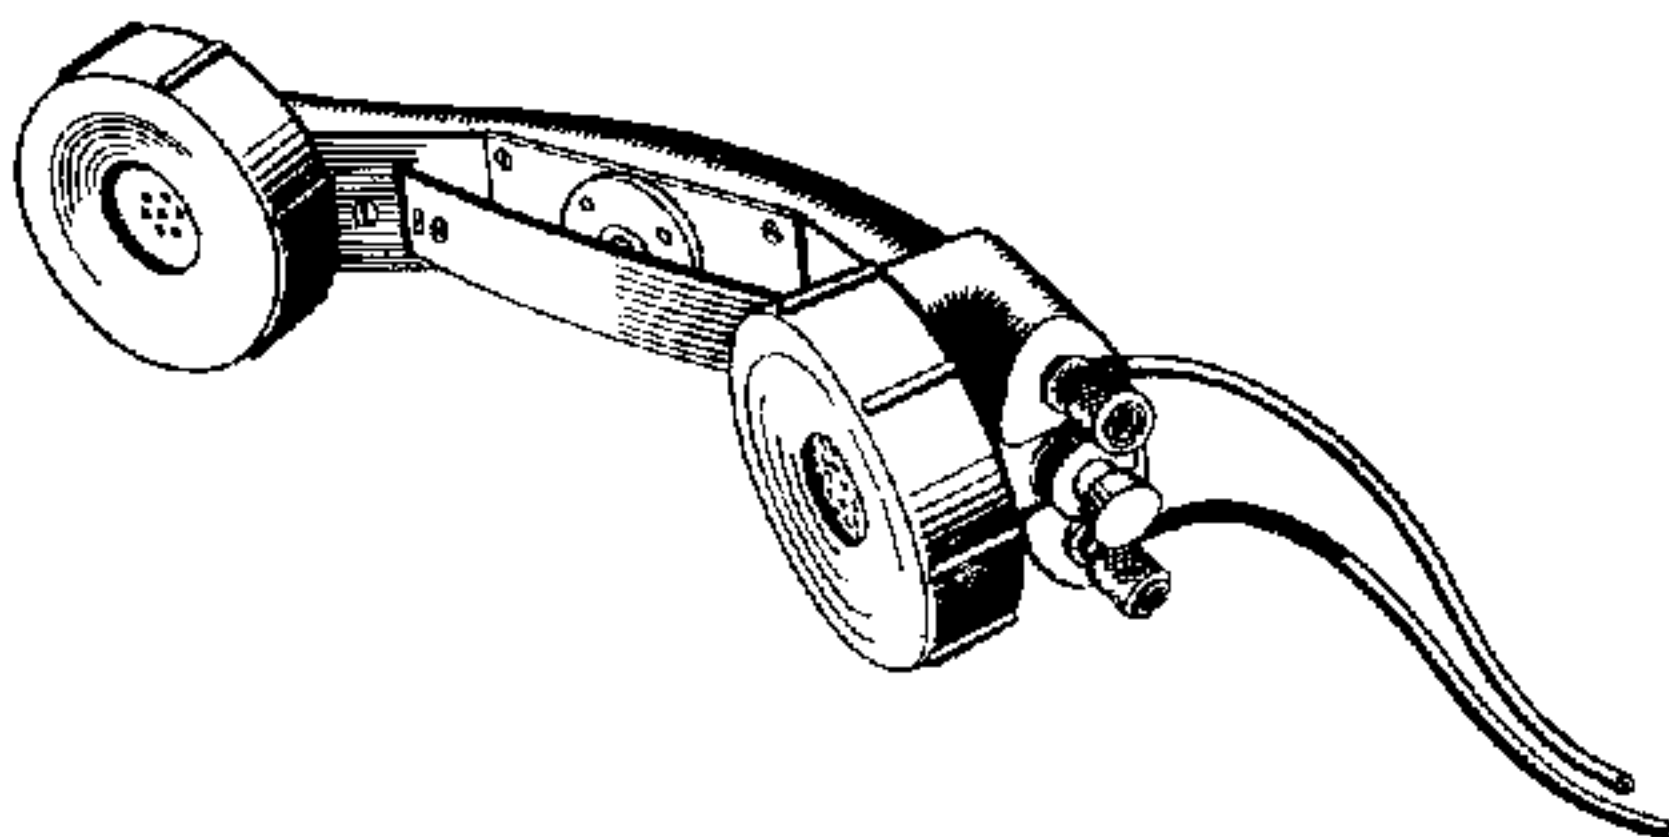

FIG 17
60. When the 'K' unit is used remotely, and the remote operator wishes to call the local operator, he must use a telephone, hand SI, remote control No 1 (see paras 85 and Fig 17) connected in parallel with the 'K' unit as shown in Fig 23. To do this, thread the cable through the terminals on the 'K' unit, pull through approximately six feet, and tighten the terminals to pierce the insulation. Connect the cable ends to the remote control telephone. Pressing the handset CALL button then causes a calling buzz.
TELEPHONE, hand, SI remote control No 1 (Fig 17)